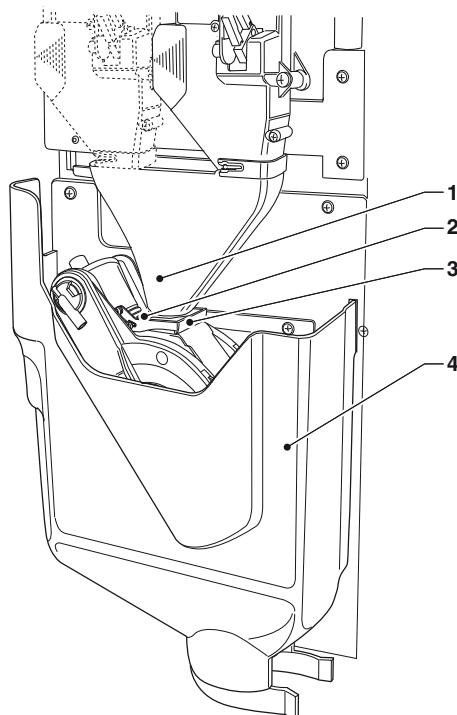

Fig. 11
It is good practice to periodically remove the cover of the infuser unit and the coffee funnel (see fig. 11). Wash and carefully dry the disassembled parts.
**It is essential to reinstall the cover before restarting the machine (see Fig. 11).**